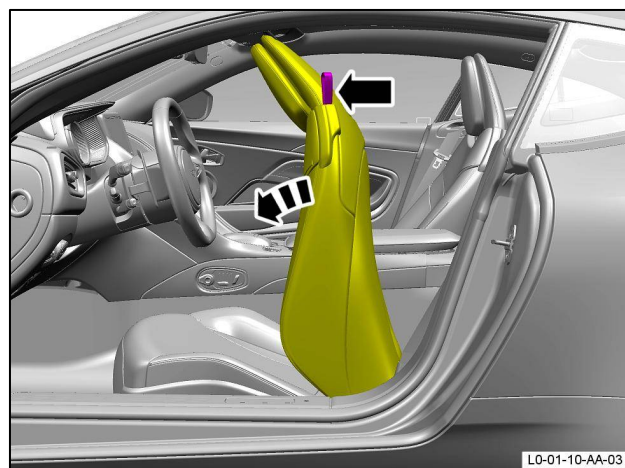

Figure 4
2. Pull the release handle to tilt the seat to its fully forward position (refer to Figure 4).